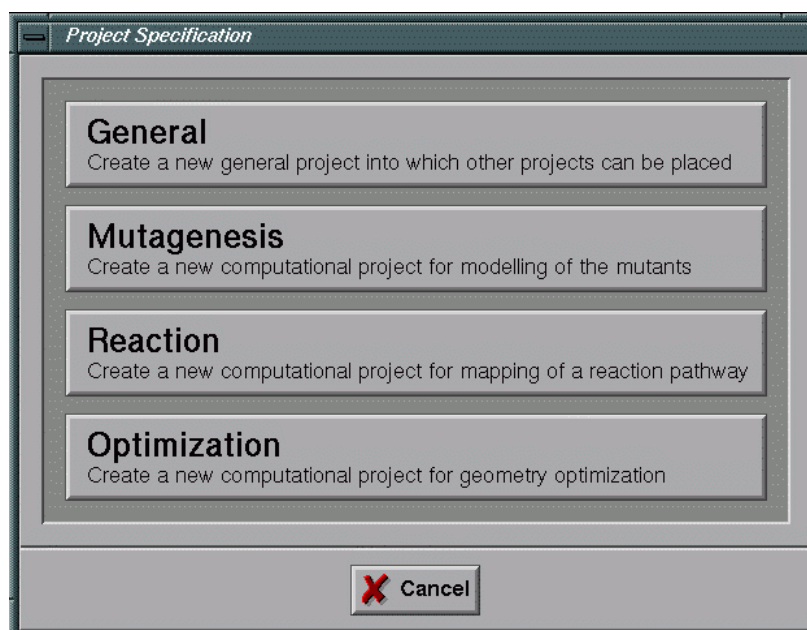
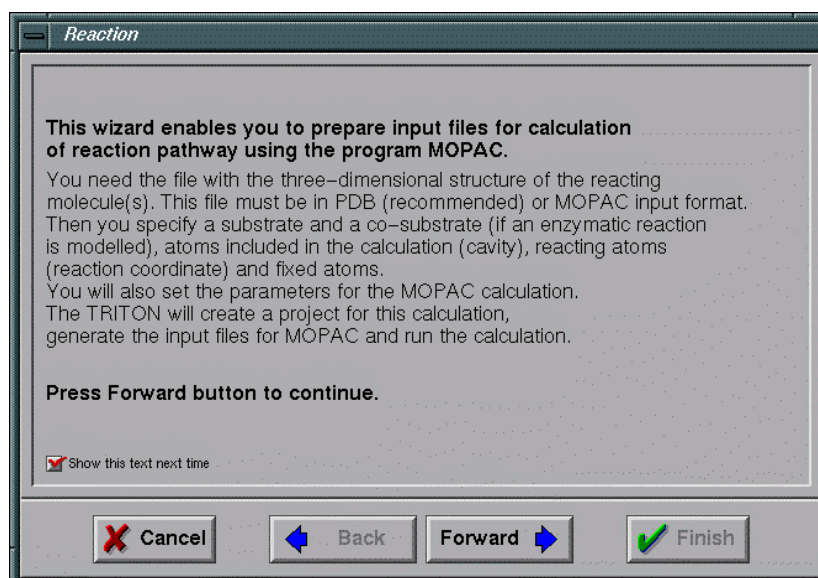

Fig 13.3 Window for specification of projects
Fig 13.4 Window with introduction to reaction project
- 3) Press the *Reaction* button in *Project Specification* window (**Fig 13.3**). This will open the Reaction wizard and the introduction for this type of project will appear (**Fig 13.4**).